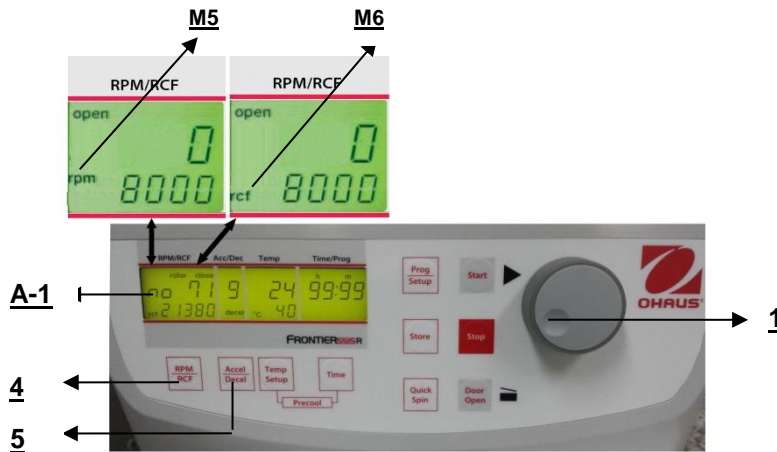

Figure. 16
This pre-selection is activated through the key "RPM | RCF" (4) (refer to figure 16 below). By pressing the key once the word "rpm" (M5) flashes. By pressing the key twice the pre-selection of the centrifugal forces can be selected. Then the flashing word "rcf" (M6) appears. You can set the